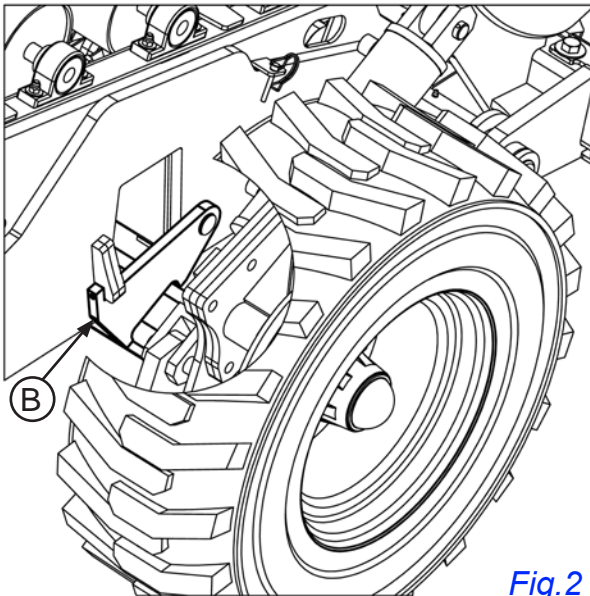

Fig.2
- Raise rear axle until tube fully contacts transport lock. See Fig.2